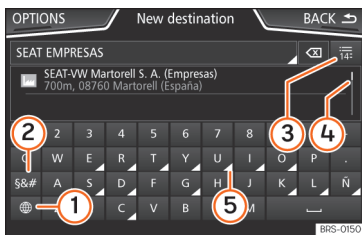

Fig. 178 Input window with on-screen keypad.
Suggestions for matching destinations appear depending on the characters entered in the input line »» Fig. 178 ④. In the case of compound names, it is necessary to enter a space.